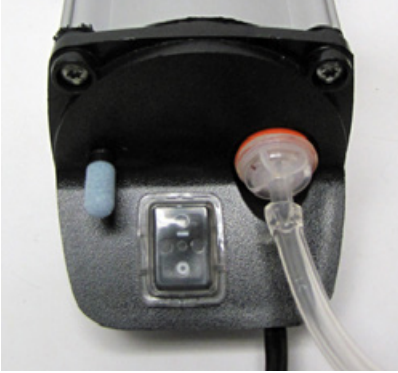

Fig. 22—Connect to the pump
1. Press the large tubing over the nipple on the pump. Press the other end over the large connector on the waste reservoir (**Fig. 22**).